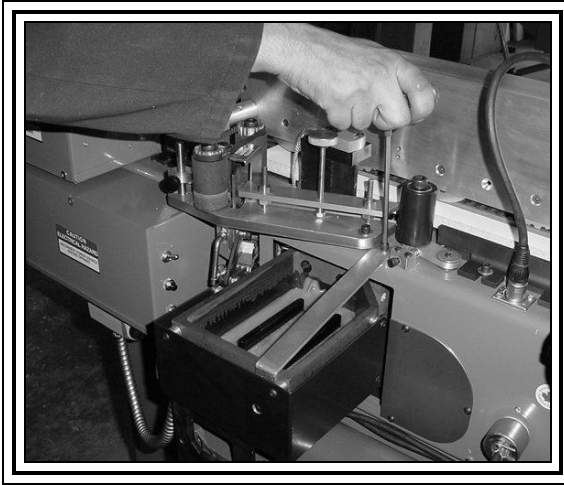

FIGURE 1
1. Remove wood crating. Machine base is bolted to pallet with 3/8" bolts from beneath 2" x 4" rails. Install 4 levelling pads and adjust so that machine sits firmly on all four (4) pads without rocking. (Theses are in the box packaged with the machine.)
2. Remove Glue Pot shipping support strap by unscrewing 3/16 allen head bolts from positions shown in **(FIGURES 1 & 2)**. Be sure to replace bolts after strap has been removed.